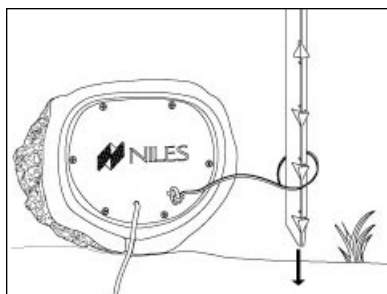

Figure 12 Security Stake
5. Feed the Security Stake through the loops at the end of the security cable and insure that they are inserted into the cable holder provided at the top of the stake, as shown in **Figure 12**.